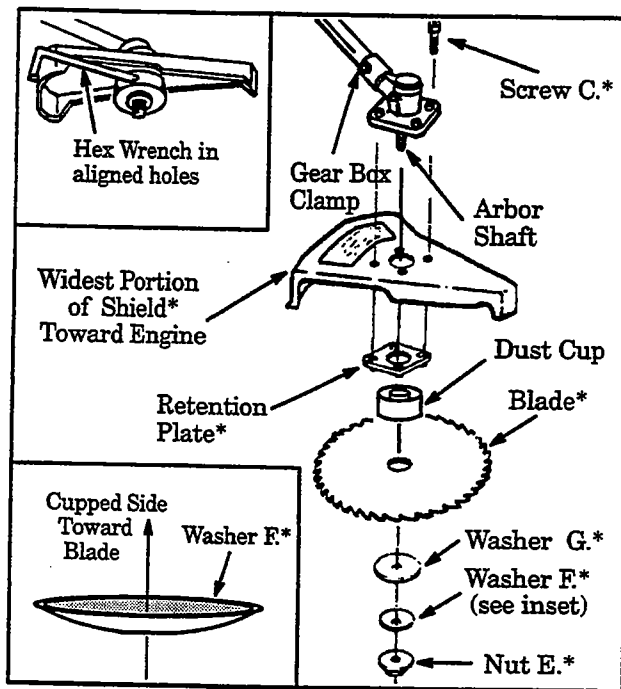

Figure 6
Failure to install the shield in the position shown in Figures 6 and 7 can result in serious injury to the operator. The length of the shield must be aligned with the length of the tube. Direct widest part of the shield toward the engine.
- Position the retention plate on the underside of the metal shield and align screw holes. Make sure the flat side of the plate is against the metal shield. Figure 6.
- Hold the retention plate in position and place the metal shield under the gear box. Align screw holes. Figure 6.
- h. Install blade over arbor shaft, making sure the hole in the center of the blade is fitted around the raised center on the dust cup. Figure 6.
**NOTE:** When installing blade, make sure teeth on blade are oriented as shown in Figure 6.
- i. Install the large flat washer "G.", cupped washer "F.", and nut "E." as shown in Figure 6. Be sure cupped washer "F." is installed as shown in Figure 6 (inset).
- k. Insert the large hex wrench (provided) into the aligned holes. Figure 6 (inset, upper left).